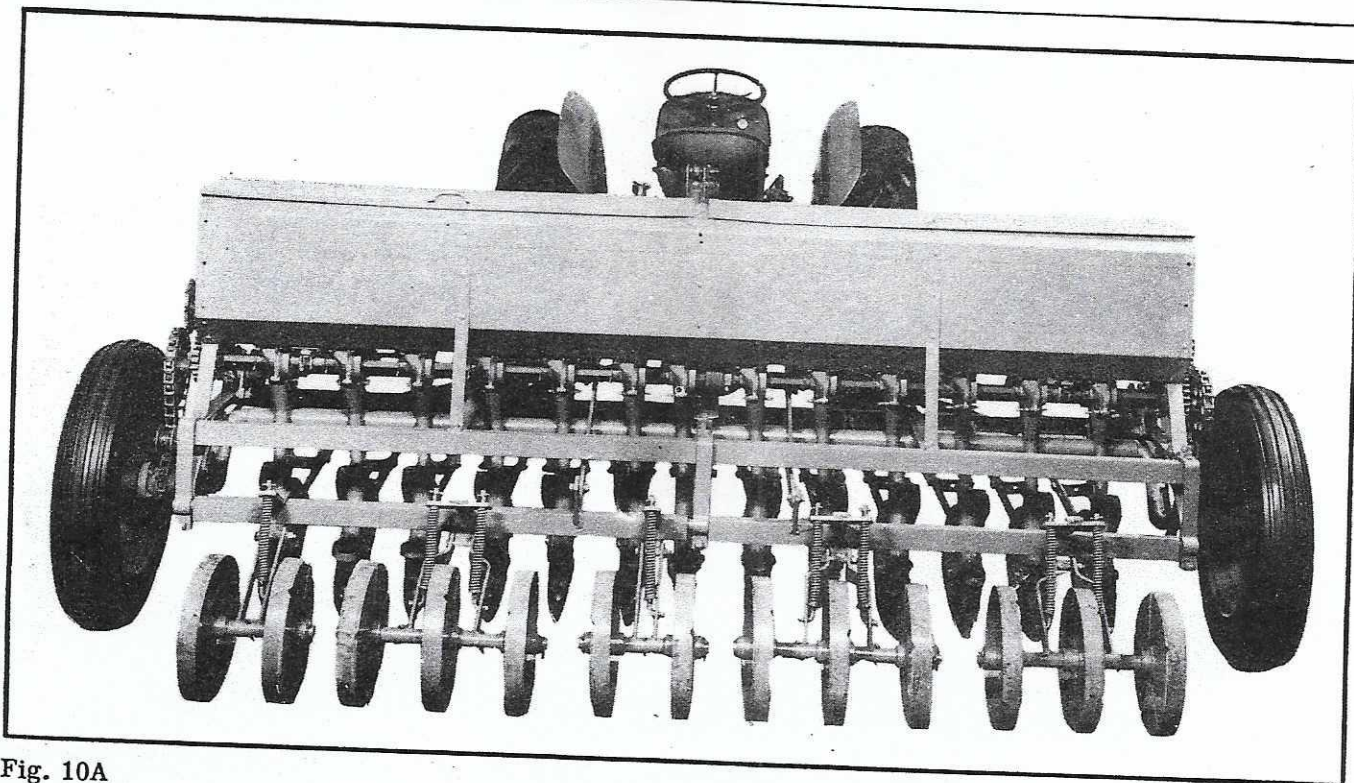

Fig. 10A
14. Press wheels (if used) should be installed as shown in Fig. 10A. First attach rear frame angle support for press wheels and press wheel lift arms. The arrangement of the press wheel is as follows: